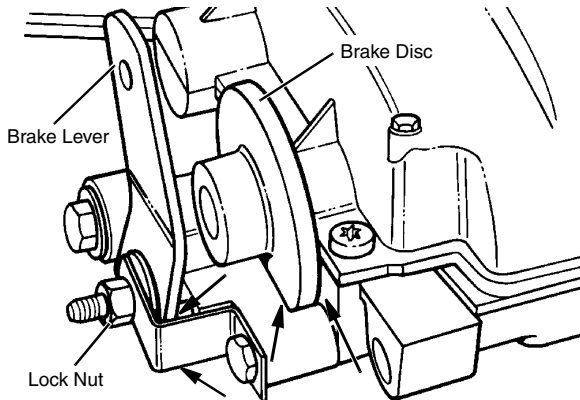

FIG. 26
- Check for brake disc contacting the case and/or brake lever contacting its mounting bracket, top or bottom. (See FIG. 26) If so, replace friction pucks and brake disc before making any adjustments.